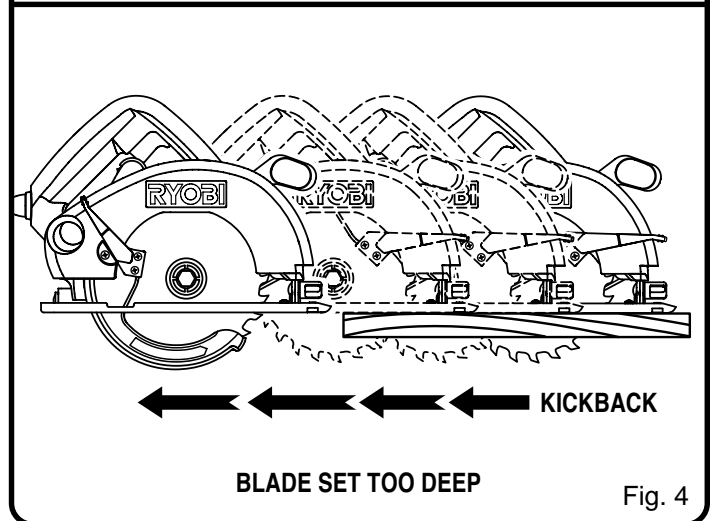

Fig. 4
See Figure 4.
- Incorrect blade depth setting. See Figure 4.